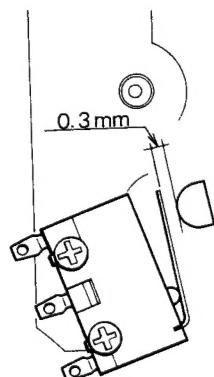

Fig. 24
2) By gently pressing the STOP control the microswitch will come on. Check to see if the motor is rotating at this point. Next, by releasing your finger from the STOP control the button will return, and when the microswitch goes OFF, check to see if there is a gap of approximately 0.3mm between the lever switch and the microswitch. (See figure 24)